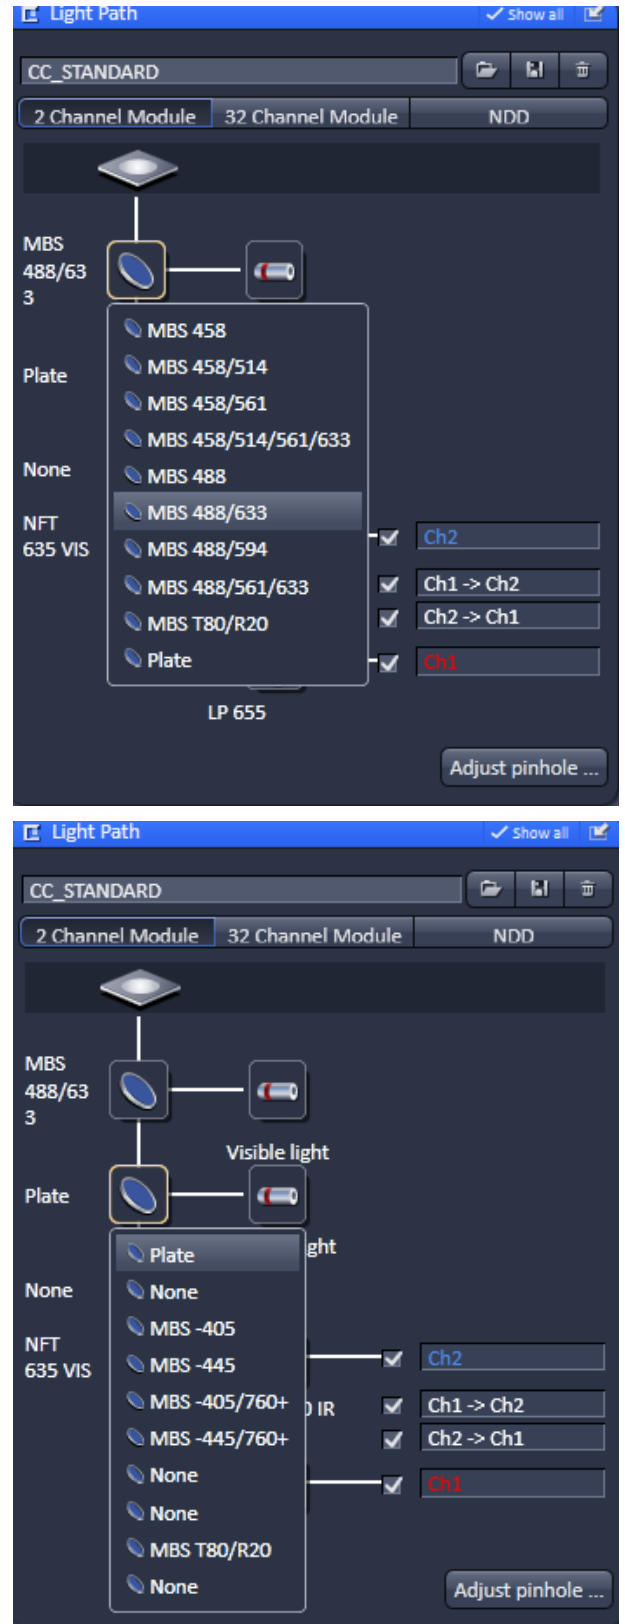

Fig. 232 Light Path panel with MBS Vis (upper panel) and Invis (lower panel) dichroics list
- Click on the MBS icon to open a list of dichroics (Fig. 232).